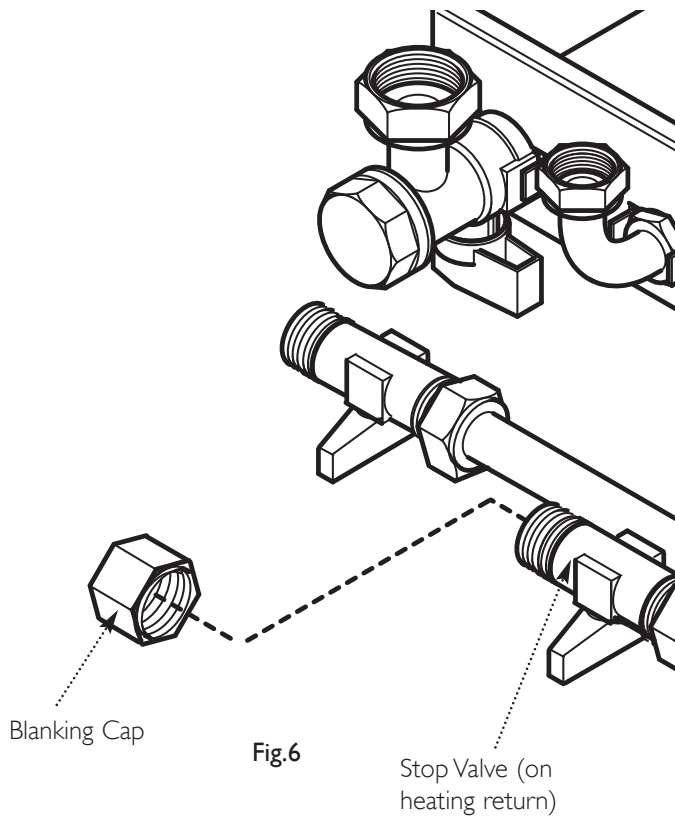

Fig.6
18. Fit the previously removed blanking cap (paragraph 10) to the open end of the stop valve (Fig. 6). This will prevent injury from hot system water if the tap is inadvertently opened.